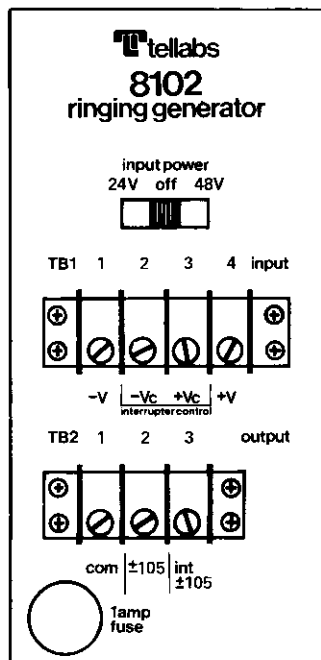

figure 2. 8102 terminal side
3.03 All input, output and ring interrupter connections are made to barrier type screw terminal blocks located at the rear of the 8102. The supply voltage selection switch and a 1 ampere input fuse are also on the rear of the unit. Make all connections in accordance with table 1 and figure 2.